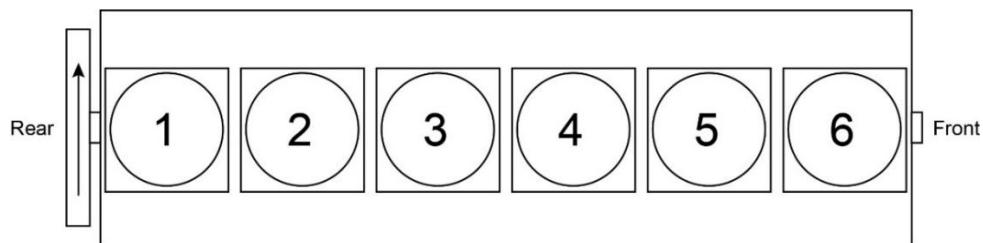

Figure 77.
6. Check the rockers when cylinder 1 is at TDC (closest to the rear (Flywheel) end of the engine). If cylinder 1 is at TDC the valves shown below in can be adjusted. If cylinder 6 is at TDC the valves shown below can be adjusted. (Refer to Figure 77)
Prior to removing the timing gears, measure the gear backlash and determine the gear wear. Check the backlash between each pair of mating gears (Figure 77). If not within specification, replace both mating gears. See Timing Gear Backlash on specifications for service limits.